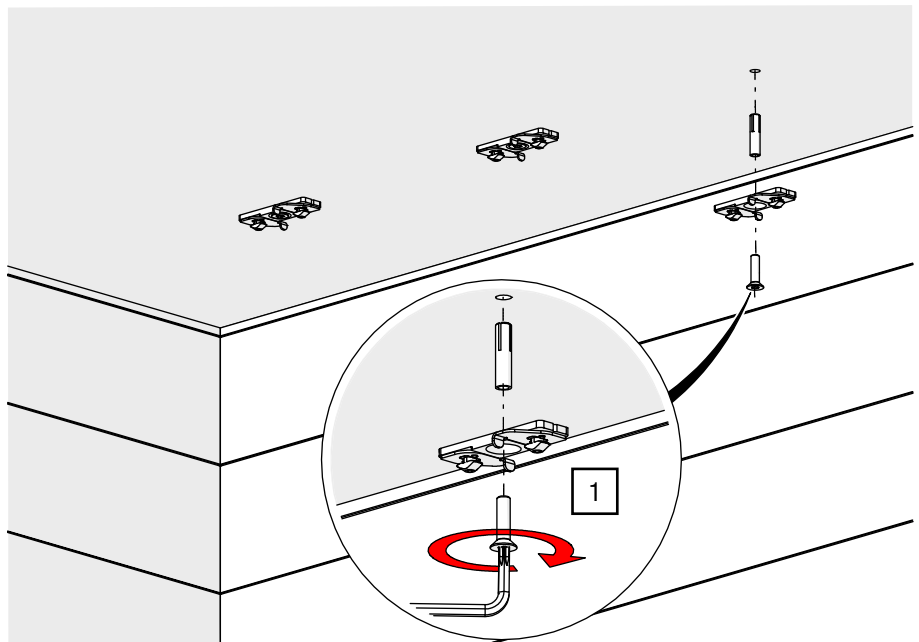

Fig. 31: Ceiling installation – Screw ceiling mount bracket into ceiling
1. Mount the M6×30 drive-in anchor in the concrete ceiling according to the manufacturer's specifications and screw the ceiling mount bracket tight using a TORX®-key T30 and 3 Nm (see Fig. 31).